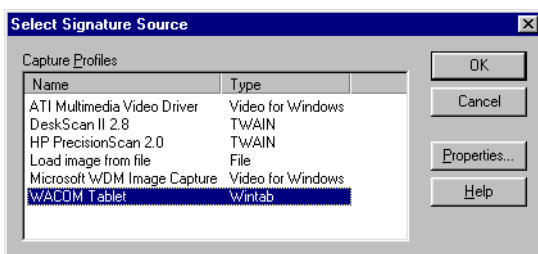

Figure 27: Select Signature Source
- Once all these values are set, click the button followed by the button. The Select Signature Source window appears (see Figure 27 on page 21).